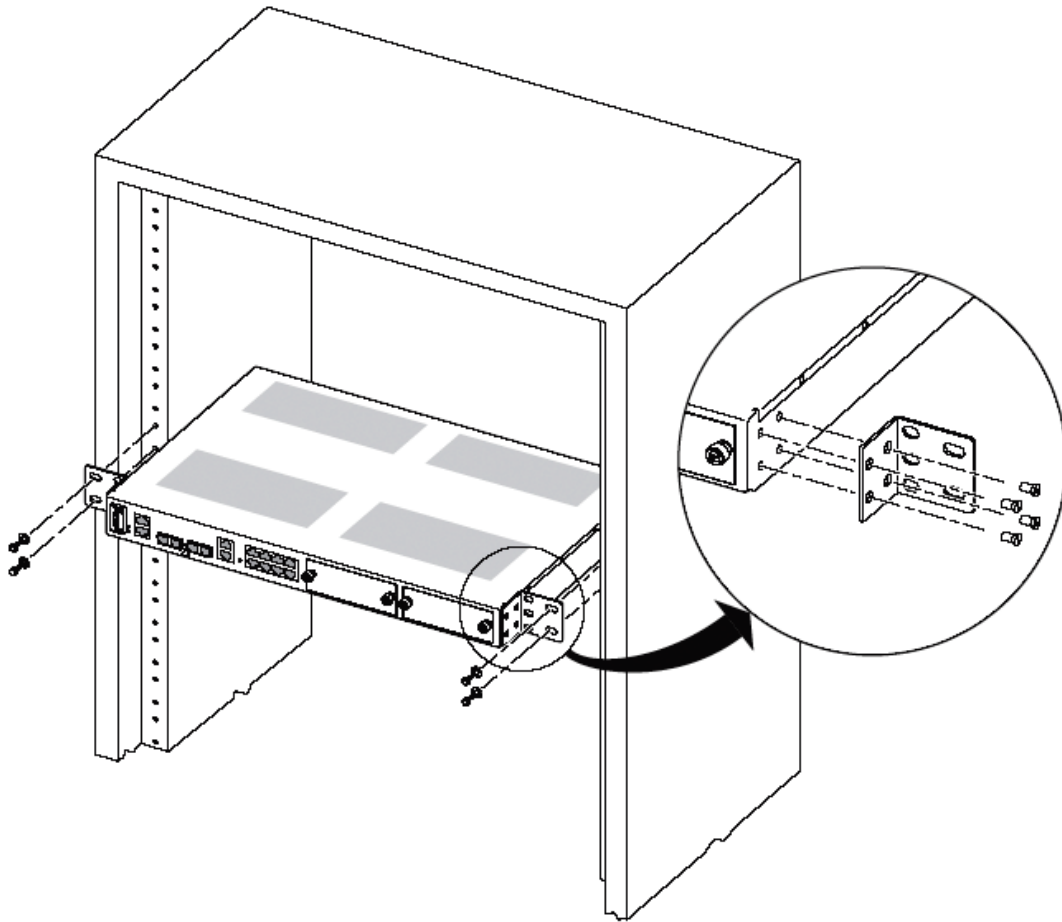

Figure 11. Mounting the OS-10 System in an ETSI 300-mm Rack
To install the OS-10 system chassis in an ETSI 300-mm rack, see Figure 11 and follow these steps:
1. Install the two L mounting brackets in the orientation shown in Figure 11. Insert and fully tighten the screws to secure the brackets to the chassis (four screws for each bracket). Use a suitable screwdriver for this task.
Note For this rack configuration, the L mounting bracket holes are positioned 50 mm back from the front panel of the OS-10 system, as shown in Figure 11.